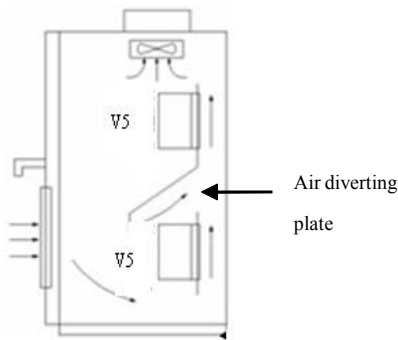

Fig.2-2 Mounting of Multi-Inverters
- When several inverters are mounted up and down, air diversion plate should be fixed in the middle as shown in Fig. 2-2.